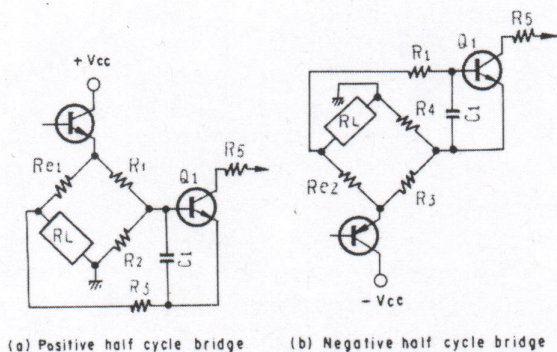

Fig. 6-23 Overload Detector Circuit
The overload detector circuit incorporates the load (RL) in one side of a Wheatstone bridge (see Fig. 6-23). The base and emitter of a sensing transistor (Q_1) are connected to the opposite corners of the bridge, so if RL decreases, Q_1 will become forward biased. If RL falls below a prescribed value, Q_1 will turn on, thereby passing a current through R_5 , D_3 and R_6 . Due to the voltage difference generated across R_6 , Q_2 will become forward biased, and consequently turn on. A DC voltage will then be applied to pin no.4, turning S_2 on, and resulting in the rapid discharge of C_t , and S_1 and Q_r both turning off. The relay will again be released to disconnect the output circuit.